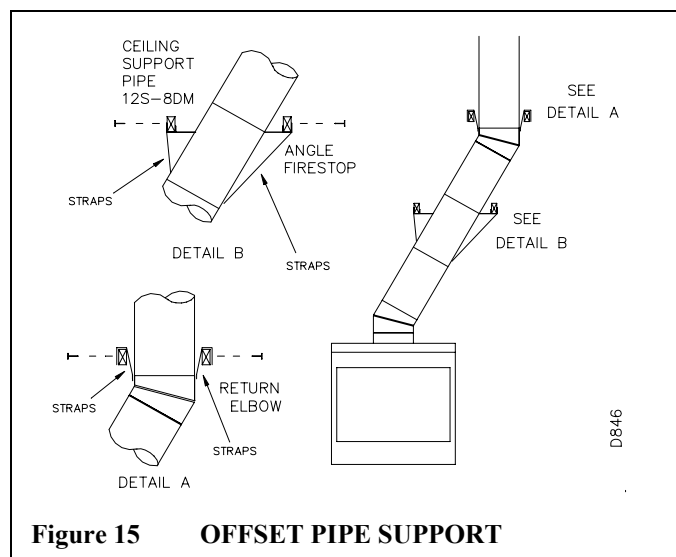

Figure 15
2. The chimney weight above the offset rest on return elbow. Straps must be securely fastened to rafters or joists (see figure 15, details A & B).
3. Maximum length of pipe between supports (return elbow or chimney support V12S-8DM) is 6' of angled run. Maximum of two (2) 6' angled run sections per chimney system.